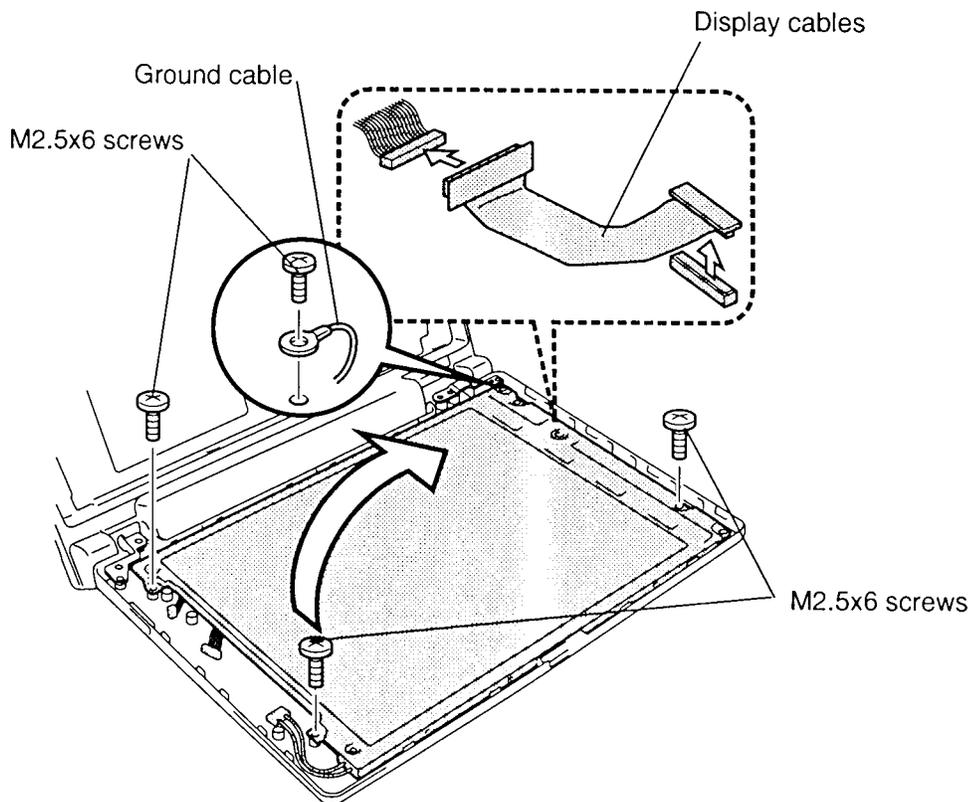

Figure 4-24 Removing the LCD module
To remove the T2150CDS color LCD module, follow the steps below and refer to figure 4-24.
3. Remove the **four M2.5x6 screws** with **ground cable** securing the **LCD module** to the LCD cover (figure 4-24).
4. Carefully rotate the **LCD module** from **left to right** out of the display cover and disconnect the **display cable** from the LCD module (figure 4-24).
To install the T2150CDS's Color LCD module, follow the steps below and refer to figure 4-24.
1. Connect the **display cable** to the **LCD module**, and carefully rotate the LCD module into place in the display cover (figure 4-24).
2. Secure **four M2.5x6 screws** with **ground cable** on the **LCD module** (figure 4-24).